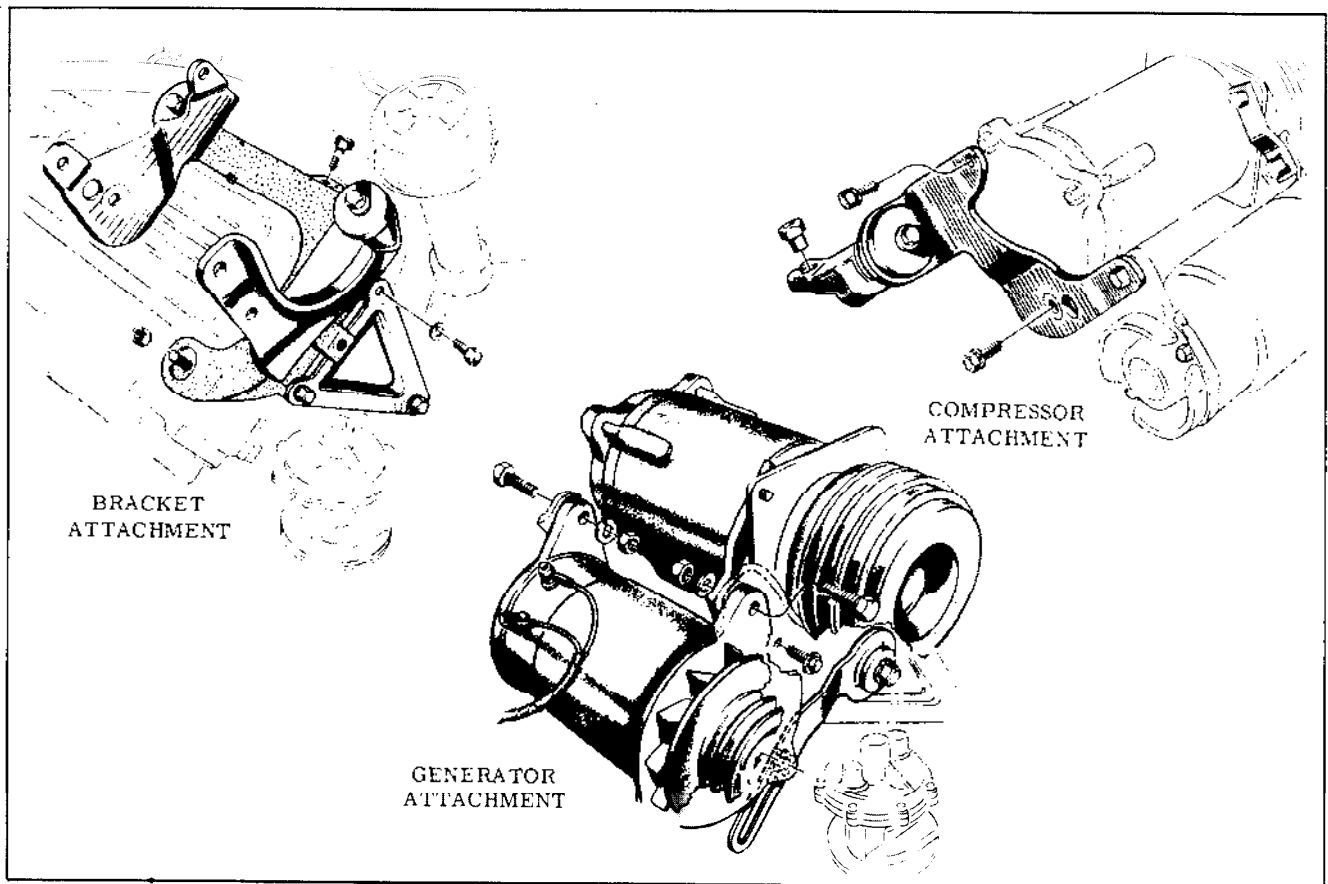

Fig. 14-34 Compressor Removal
COMPRESSOR (Fig. 14-34)
2. Install generator and tighten all attaching bolts. (Fig. 14-34)